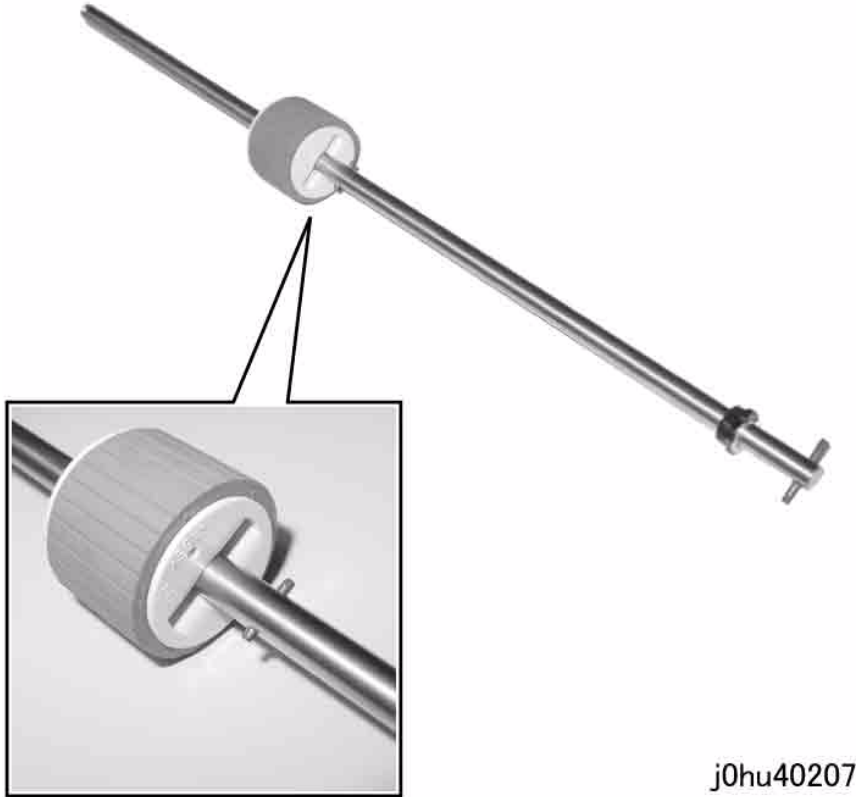

Figure 3 Feed Shaft Pin Alignment
2. When installing the Tray 1 Feed Roll, align the pin of the Feed Shaft with the slot in the Tray 1 Feed Roll (Figure 3).